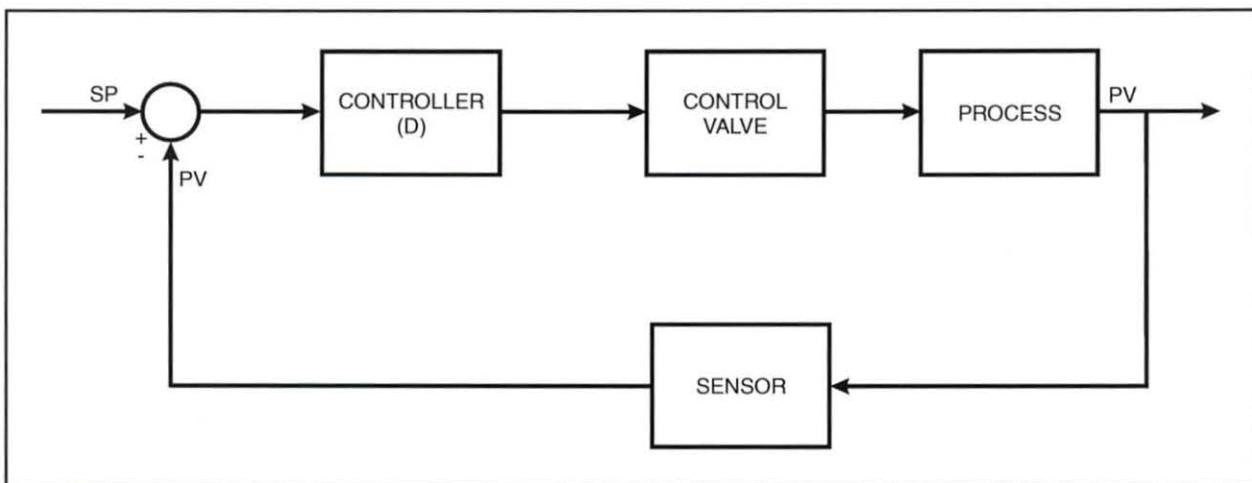

Figure 63. Block Diagram of a Process System Using Derivative Control
Figure 63 shows a block diagram of a process system that uses derivative control. When a controller receives a changing error signal (i.e. an error signal that does not hold the same value over time), the derivative element (D) in the controller increases the controller output according to how fast the signal is changing.